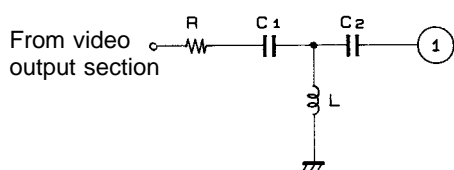
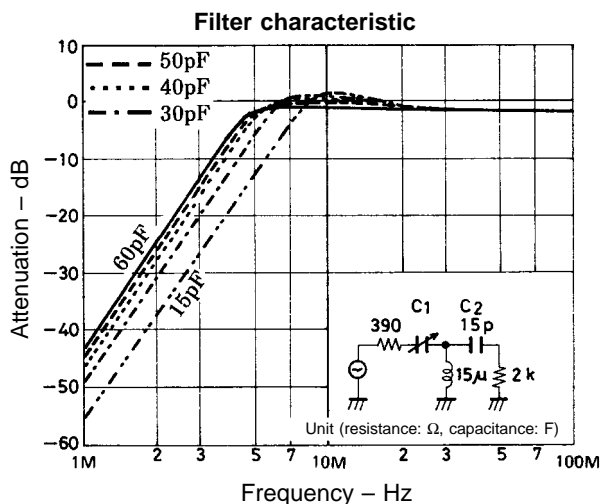

Figure 2 A00674
Figure 3
- Pin 1 is the SIF input pin. The filter in Figure 2 can be connected to the input section to improve the buzz characteristic. Figure 3 shows the characteristics for the filter in Figure 2. If C1 is too small, the buzz characteristic improves for normal input, but the filter cuts into the sound carrier and the buzz characteristic deteriorates for the P/S (picture/sound carrier) ratio. Use  $C1 \approx 20 \text{ pF}$  to  $47 \text{ pF}$ .